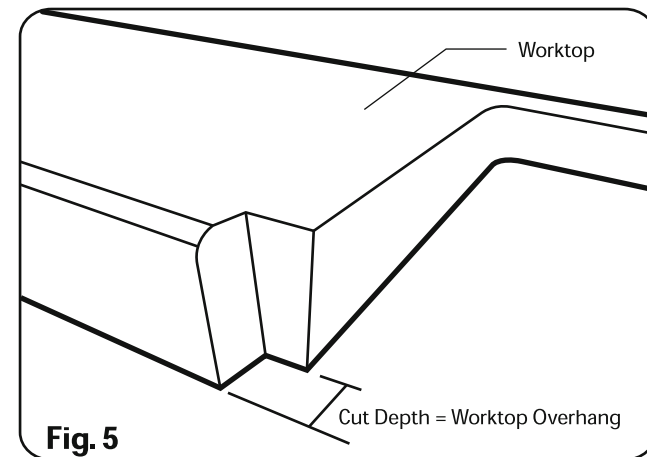

Fig. 5
10. Cut the notch (See Fig. 5). Proceed to Stage 2. Fascia cutting instructions.